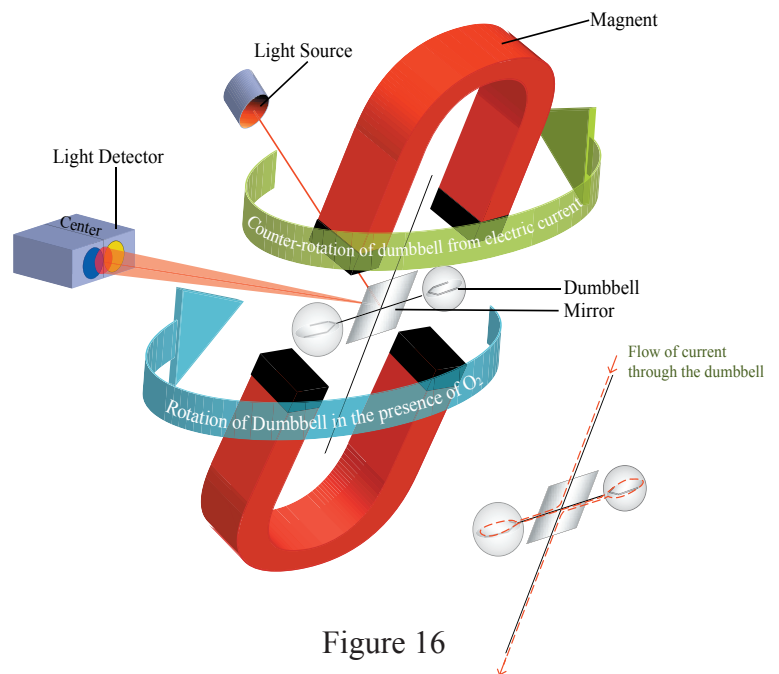

Figure 16
**Paramagnetism:** (Figure 16) This is a physical property of Oxygen that is shared by very few other gases. It exhibits a rather unique behavior within a magnetic field and how it interacts with other objects in that magnetic field. The Paramagnetic Oxygen Sensor consists of a “dumbbell” suspended in a magnetic field by a very fine wire. Sample gas enters the sensor at a very low flow, under 200 ml/minute. As the sample gas passes around the dumbbell, the paramagnetic properties of Oxygen pushes the dumbbell causing it to rotate, which in turn twists the wire suspending it. The rotation of the dumbbell is directly proportional to the concentration of Oxygen present, the more Oxygen, the stronger the rotation. As the dumbbell rotates and the wire is twisted, a small mirror bounces a light source to a detector which tracks the rotation of the dumbbell. A small current is passed through the wire, which brings the dumbbell back to its original position. The more Oxygen present, the more current needed to bring the dumbbell back into position. This current is the signal generated from the sensor.